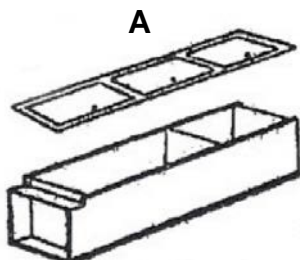

Figure 5
5. Installing the Face Frame (A): Place the Face Frame (A) directly on the half assembled cabinets. Then open all doors in order to well align all grooves and cam locks and lock them (Figure 5)